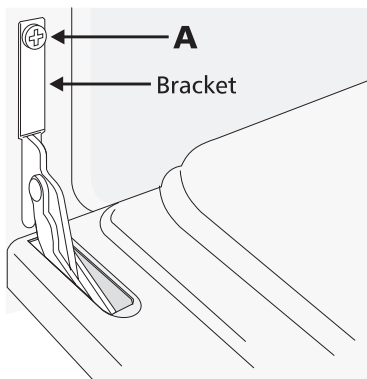

Figure 11
2. Remove the screws (A) on each side of the oven door. (See Figure 11.)